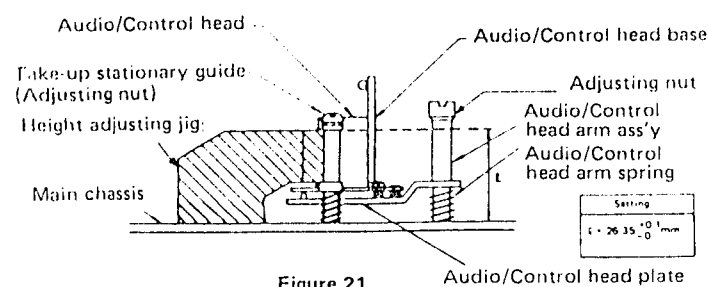

Figure 21.
- 1) Set the guide pole height adjustment jig on the main chassis A, as shown in figure 21.